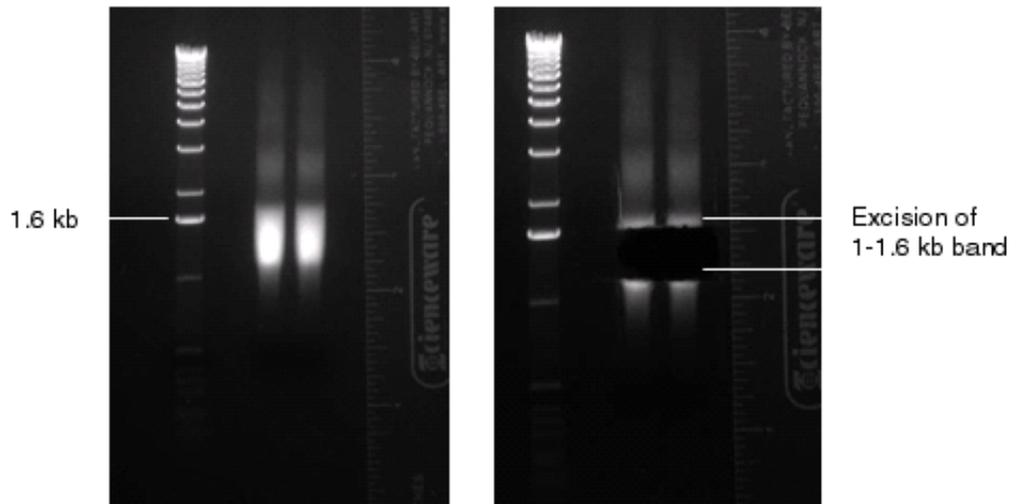

Figure 13 Excision of 1-1.6 kb range in a 1.0% agarose gel.
7. Using the ladder bands and the ruler for reference, excise the band of the gel corresponding to the insert size range of interest with a clean razor blade (see Figure 13 on page 90). If desired, a tighter size selection can be carried out at this stage by taking a tighter cut. If the gel piece is large, slice into smaller pieces.